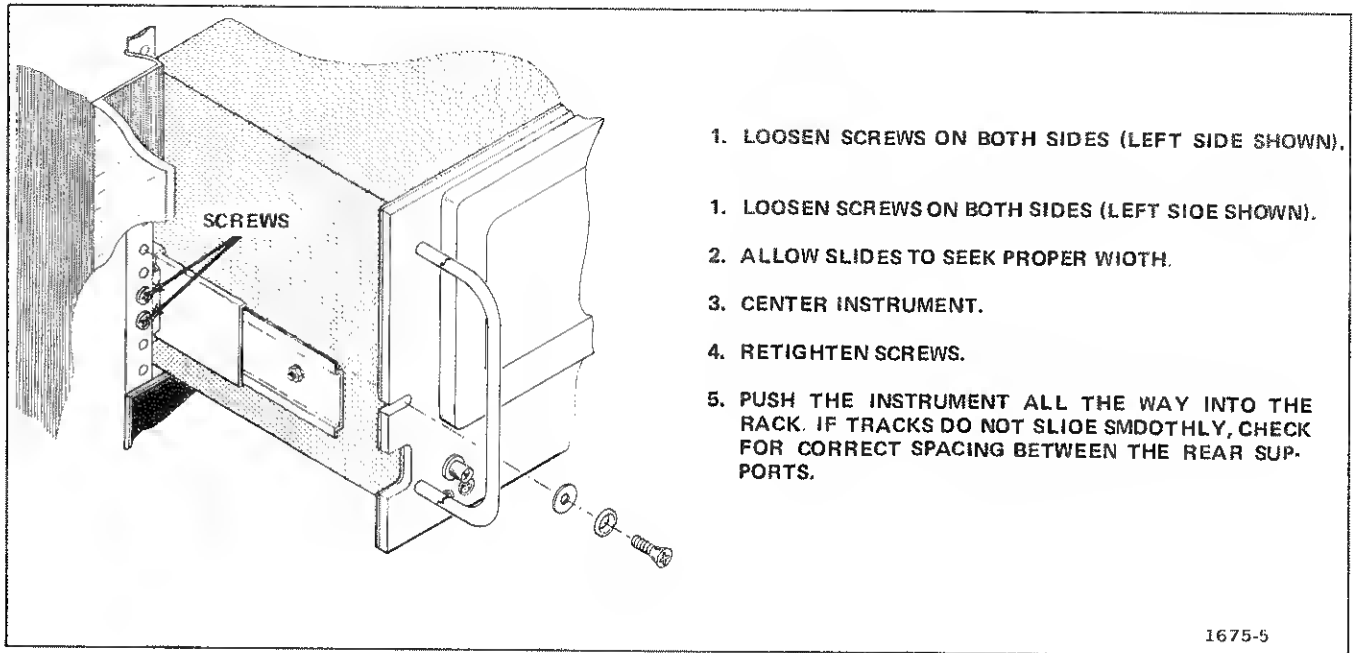

Fig. 3-5. Adjustment of the slide-out tracks for smooth sliding action.
5. See Fig. 3-5 to adjust the alignment of the stationary sections.